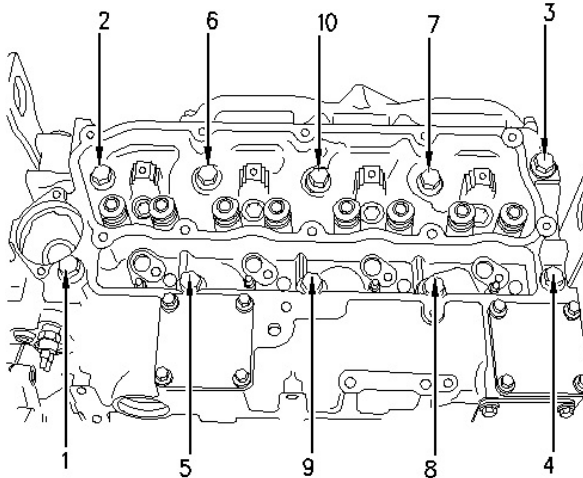

Figure 2. Head Bolt Torque Sequence
1. Tighten all bolts in the sequence that is shown in Figure 2 to 37 FT/LBS (50 Nm)